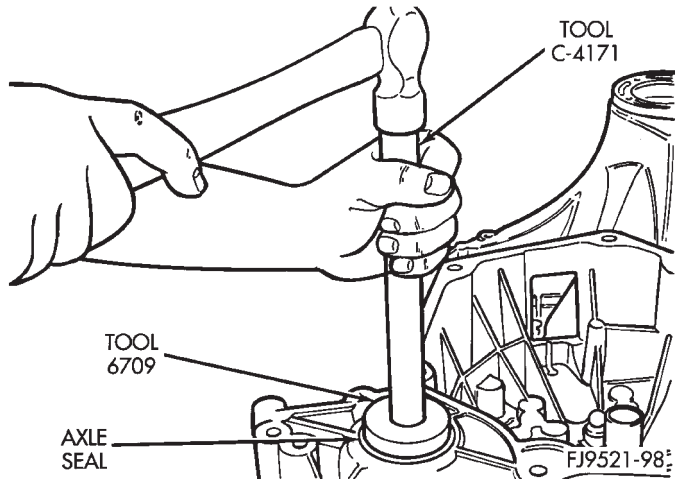

Fig. 131 Axle Seal Installation
- (1) Clean axle shaft seal bore of any excess sealant.
- (2) Align axle shaft seal with axle shaft seal bore.
- (3) Install axle seal on tool #6709 with C-4171 and insert into axle shaft seal bore.
- (4) Tap seal into position (Fig. 131).